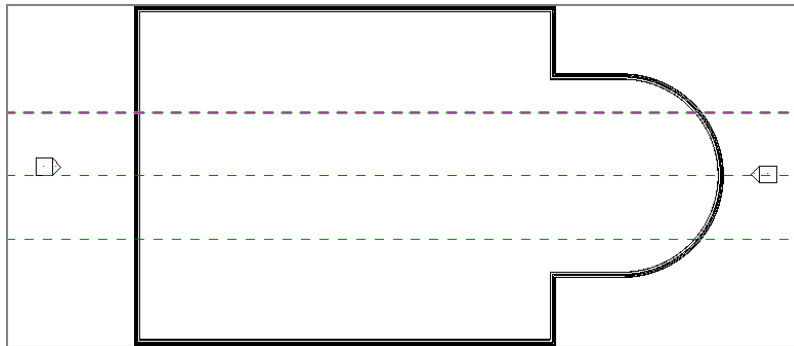

FIGURE 2.5 : Reference planes are used here to aid in the placement of walls.
12. With the Ref Plane command still running, hover over the middle line again. This time, offset the alignment line down. Your plan should now look like Figure 2.5.